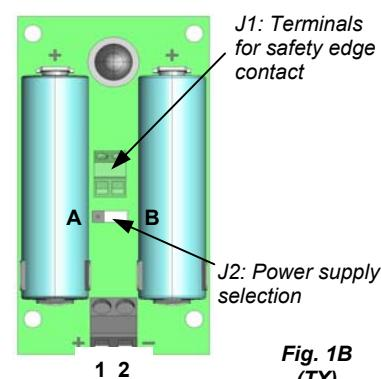

Fig. 1B
- Connect the wires as described in paragraphs 4 and 5 and select the source of power supply with the relevant jumper (J2, fig 1B):
- Connect the output contact of the safety edge (or other safety devices) to the relevant terminals (J1, fig. 1B). If this option is not used, don't remove the existing short-circuit.